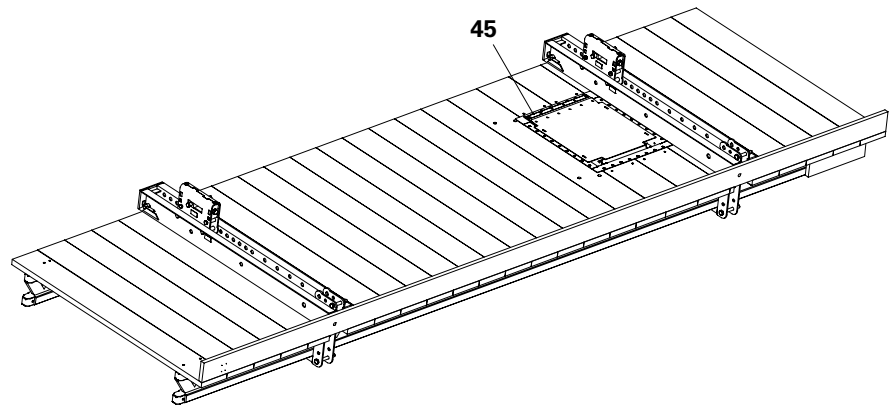

Fig. B1.13b
2. Secure frame of the hatch and decking using approx. 16x TSS Torx 6 x 40 (**45**) (**2 per plank**). (Fig. B1.13b)